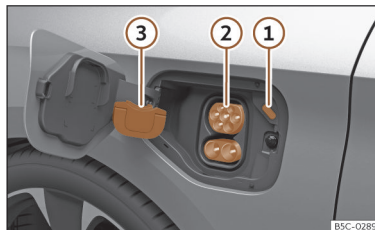

Fig. 61 Behind the battery charging cover on the rear right-hand side.
- Remove the protective cap and hang it on the hook >>> **Fig. 61 ③**
- Plug the charging station's charging connector into the charging socket >>> **Fig. 61 ②**
The LED (charging process indicator) of the charging socket flashes or flashes white >>> **Fig. 61 ①** >>> page 82
The charging process indicator on the charging socket ① flashes green >>> **Fig. 61.**
- Tap the **Stop charging** function button on the infotainment system screen. The charging process indicator located next to the charging socket ① lights up white >>> **Fig. 61.** The charging connector is unlocked.
- Place the protective cap on the charging socket's lower connection ③ >>> **Fig. 61**